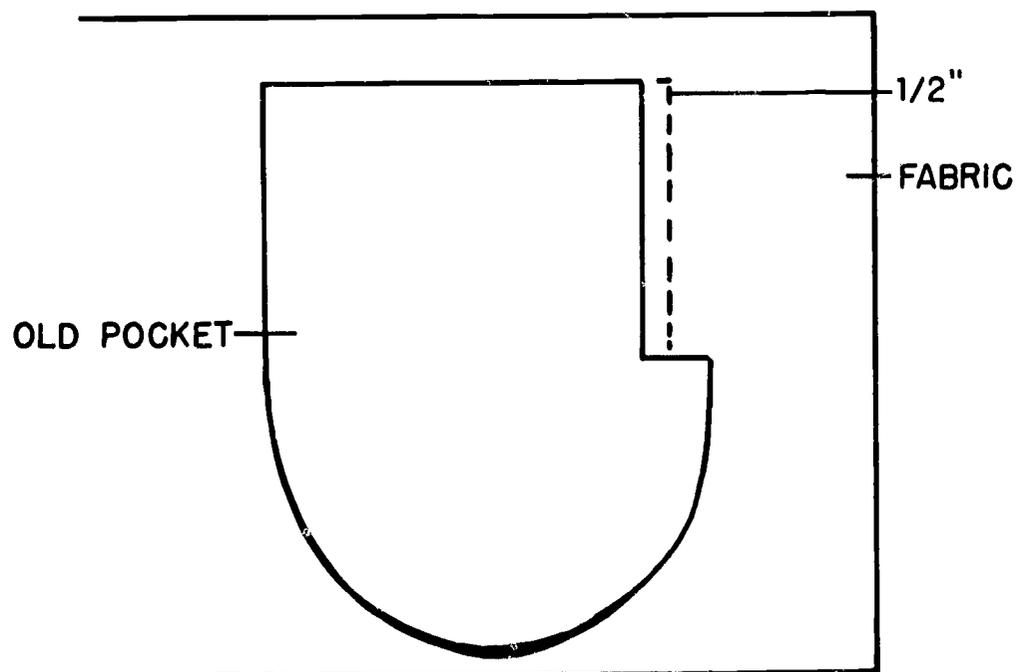

Figure 83.
5. Now cut the new pocket from a durable fabric using the old pocket as a pattern. Cut new pocket allowing 1/2 inch extra on side of pocket that was cut from trousers (see Figure 83).